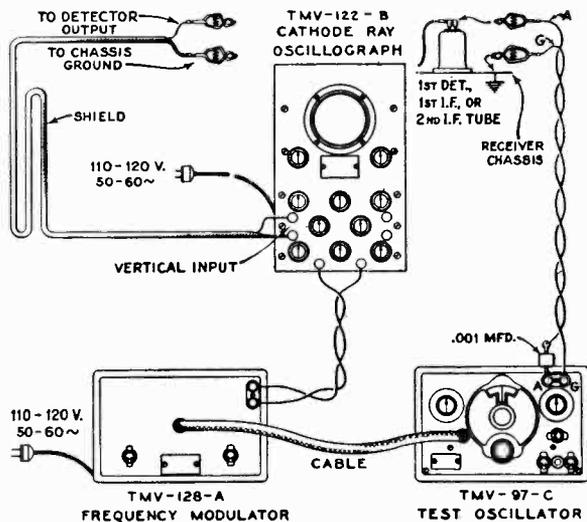

Figure 2—Alignment Apparatus Connections
Six trimmers are associated with the three i-f transformers. Their locations on the chassis are shown by Figure 4. Each must be aligned to a basic frequency of 460 kc. The last i-f transformer should be adjusted first, the one preceding it second and the operation carried through successive stages until the first transformer has been aligned. For such a process, it is necessary to feed the output of the Full-Range Oscillator to the stages in their order of alignment, adjusting the trimmers of each and observing the effect at the second-detector output on the Cathode-Ray Oscillograph. The most convenient point for connection of the Oscillograph is at the control-grid of the RCA-6C5 first audio tube, with the vertical "Hi" input terminal attached to the grid connection and the "Gnd" to the chassis. The "Ext. Sync." terminals of the Oscillograph should be connected to the Frequency Modulator as illustrated in Figure 2. A .001 mfd. capacitor installed in series with the Oscillator "Ant." output lead will prevent the voltage constants of the stage being aligned, from becoming upset.
- (b) Attach the output of the test Oscillator between the control-grid cap of the second i-f tube (RCA-6K7) and chassis ground as shown typically by Figure 2. Tune the Oscillator to 460 kc. and set its modulation switch to "On." Regulate its output until the signal produces a wave pattern on the Oscillograph screen, adjusting the Oscillograph controls to give a shape which is convenient for peak indications. Cause the image to stand still on the screen by manipulation of the frequency and synchronizing controls. Then carefully tune the two trimmers C-44 and C-45 of the third i-f transformer to produce maximum amplitude (vertical deflection) of the oscillographic image. Under this condition the transformer will be sharply resonated to 460 kc.
- (c) The Frequency Modulator should then be placed in operation and interconnected with the Full-Range Oscillator by means of the special shielded patch cord. Figure 2 shows the proper arrangement. Set the Frequency Modulator sweep-range switch to its "Lo" position and turn the Oscillator modulation switch to "Off." Change the timing control of the Oscillograph to "Ext." and place the range switch to its No. 2 position. Then carefully shift the tuning of the Oscillator so as to increase its frequency, until two distinct and similar waves appear on the Oscillograph screen and become exactly coincident at their highest points. This condition will be found to occur at an Oscillator setting of approximately 540 kc. The curves will be identical in shape but appearing in reversed positions. Adjust the frequency control of the Oscillograph in order to cause the waves to conform with the above requirement and to make them remain motionless on the screen. This will require a setting of approximately 1/2 clockwise rotation of the frequency control. The trimmers C-44 and C-45 should then be re-adjusted so that the two curves move together and become exactly coincident throughout their lengths, maintaining the maximum amplitude at which this condition can be brought about.
- (a) With the receiver range switch in its Band A position, tune the station selector until the dial pointer is at a reading of **1720 kc.** Adjust the test Oscillator to **1720 kc.** (modulation "On" and Frequency Modulator disconnected) and increase its output to produce a registration on the Oscillograph. Carefully align the oscillator, detector, and antenna trimmers, C-25, C-14, and C-3 respectively, so that each brings about maximum amplitude of output as shown by the wave on the Oscillograph. It will be necessary to have the timing control of the Oscillograph on "Int." for this operation. After each trimmer has been peaked, the Oscillograph timing control should be set to "Ext." and the Frequency Modulator placed into operation with its connections to the Oscillator and Oscillograph made in accordance with Figure 2. Turn the modulation switch of the Oscillator to "Off" and retune the Oscillator (increase frequency) until the forward and reverse waves show on the Oscillograph and become coincident at their highest points. Adjust the trimmers C-25, C-14, and C-3 again, setting each to the point which produces the best coincidence and maximum amplitude of the wave images.